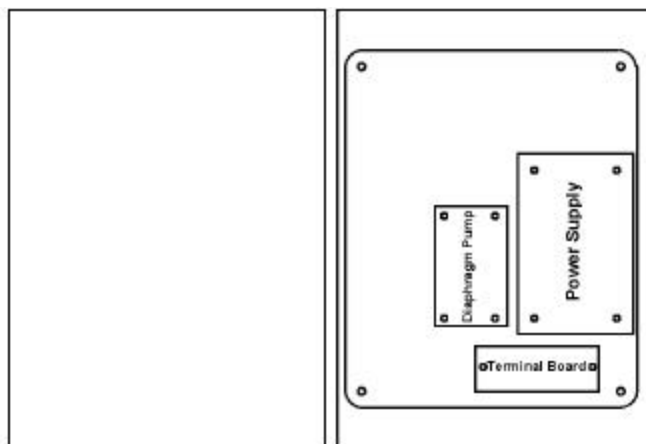

Figure 5 Power Supply Diagram
**Power Supply:** Refer to the figure 5 for Power Supply diagram. Power is supplied to the monitor through terminals 1, 2 and 3 of the terminal board. Line voltage is fed through the fuse on the left side of the monitor (not shown), and to the diaphragm pump and power supply. The power supply converts AC line voltage to dc voltage. DC Voltage is fed through the terminal board to all of the electrical components of the monitor.